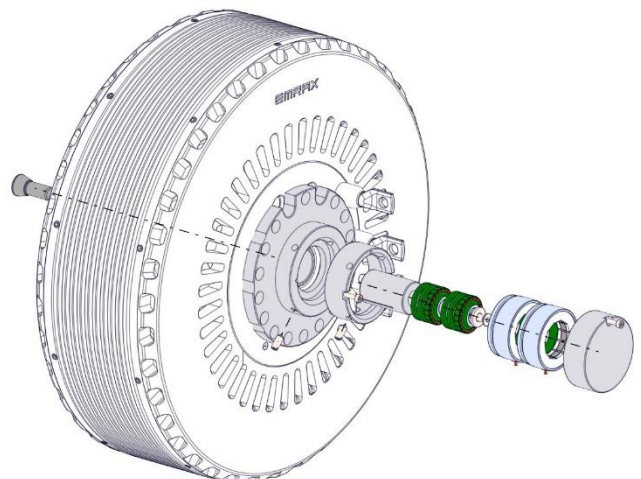

Figure 9: Twin resolver assembly
3. Insert the rotor assembly into the backside of the motor, inside the motor shaft (as shown on figure 9). Before inserting the part use threadlocker glue on the faces, where the parts are mated.
4. Mount the resolver bracket (7) on the back of the motor. Make sure that it is seated in its position, if necessary, use temporary bolts to tighten it to the motor. (If the motor is liquid or combined cooled, please make sure that the coolant fittings are inserted, before mounting the encoder bracket, please refer to 3.5).
5. Mount the first resolver stator (8) to the mounting flange of the resolver bracket (7). While holding the resolver stator (8) down, use DIN 914 set screws (12) to bolt it down from the side. Using threadlocker glue supplied with the kit on the threads is recommended.